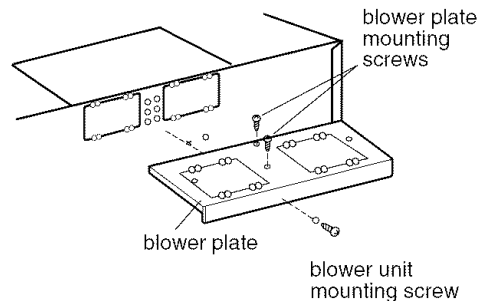

Figure 18
1. Remove one blower unit mounting screw and two blower plate screws. Remove the blower plate from cabinet. See **Figure 18**.